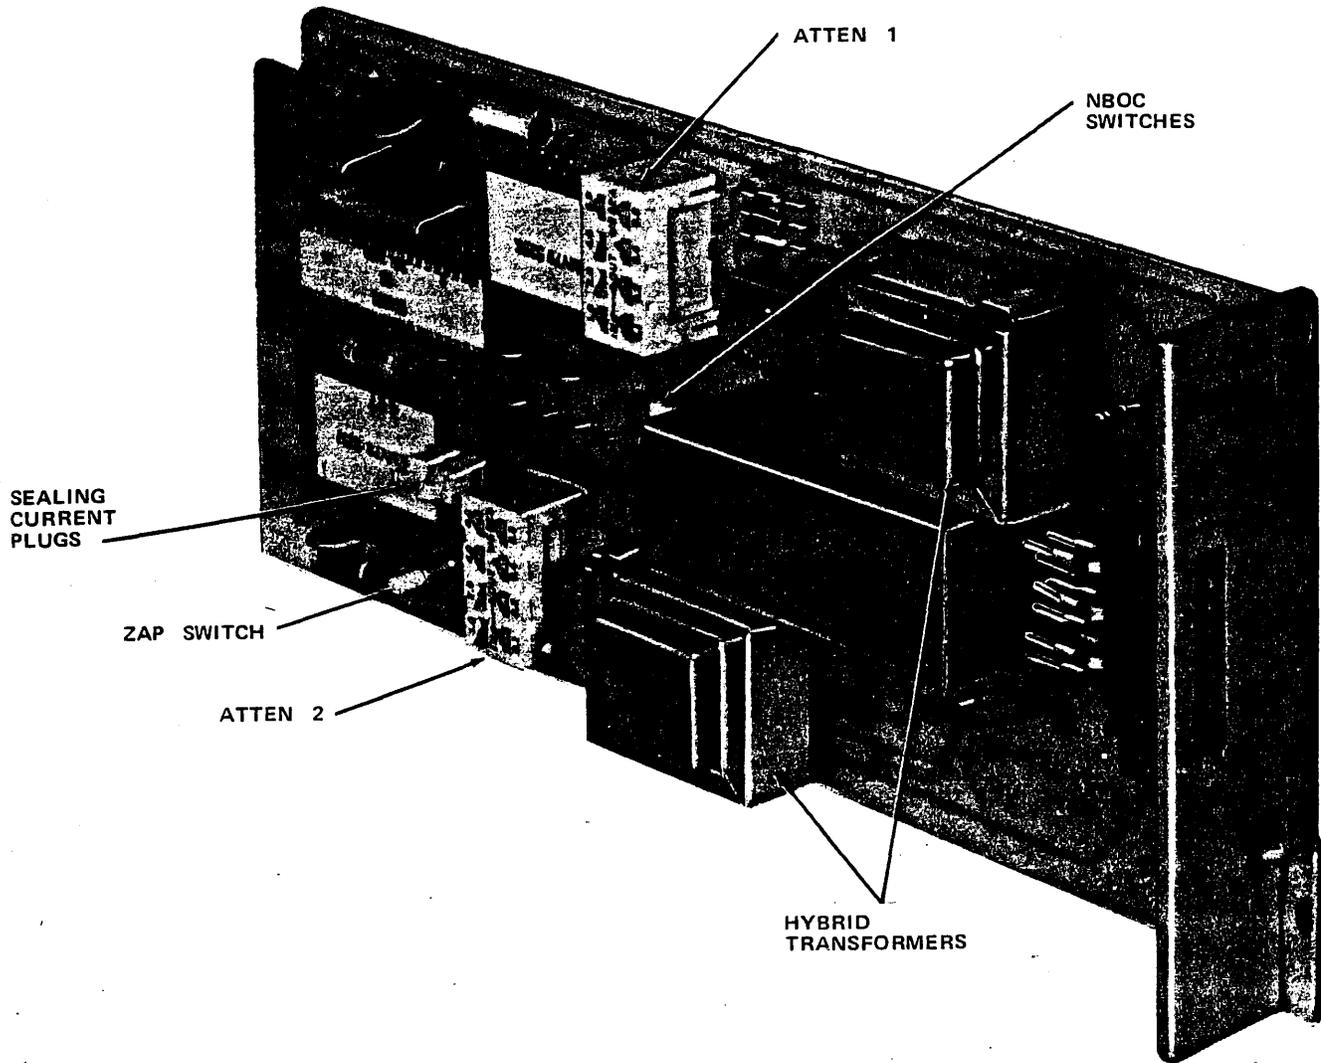

Fig. 1—2-Wire Transmission Only (2TO)
2.01 The 2TO unit (Fig. 1) is provided for use on 2-wire metallic extensions which require no signaling or use end-to-end inband signaling (eg, a short private line for data transmission). The unit provides a hybrid on the drop side for 2-wire to 4-wire conversion, with a compromise balance network of 900 ohms. It contains a dc loop-sealing current option which is used to break down a high resistance film that may build up on extensions with unsoldered hand twisted splices.